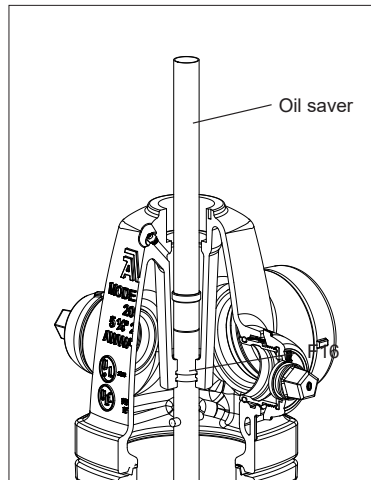

Fig. 7E
**NOTE:** On oil filled hydrants, to avoid draining of oil from the oil reservoir in the nozzle section (F29), press the oil save sleeve (see fig. 7E and 7F) with the stop ring placed downward, over the upper stem rod (F16) during the disassembly. While holding the oil saver in place lift the nozzle section (F29) and oilsaver off of the upper stem rod (F16). During reassembly inspect the stem seal O-rings (F15) and the barrel gasket (F17) for damage.